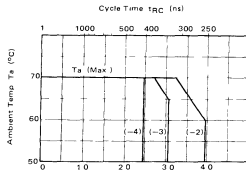

Fig 1 T_a vs t_{RC}
- T_a is specified here for operation at frequencies to $f_{RC} \geq t_{RC}(\min)$. Operation at higher cycle rates with reduced ambient temperatures and higher power dissipation is permissible, however, provided AC operating parameters are met. See Fig 1 for derating curve
It is possible to operate certain versions of the TMM416P/D family (-2 and 3 speed selections for example) at frequencies higher than specified, provided all AC operating parameters are met. Operation at shorter cycle times ($< t_{RC}$ min.) results in higher power dissipation and, therefore, a reduction in ambient temperature is required. Refer to Fig 1 for derating curve.